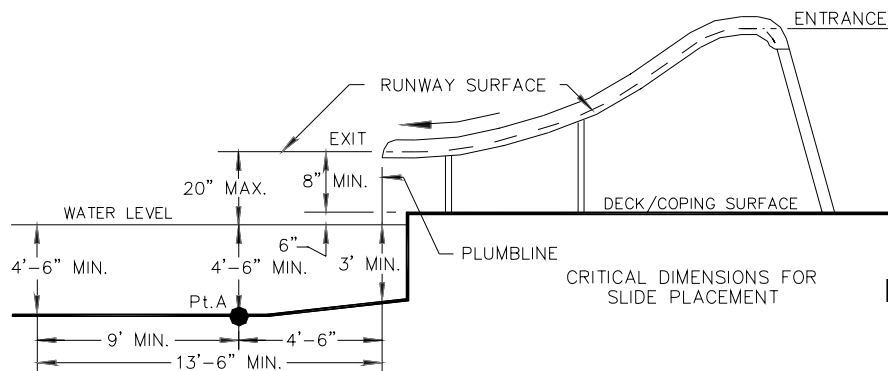

**Figure 25**
- 3) Using the four holes on each flange as a template (see Figure 25 below), drill four 5/16" holes per flange 1-7/8" deep. CAUTION: Do not drill holes larger than 5/16". Maintain drill hole straight and perpendicular for proper holding strength of anchor stud.
- 8) Drill a 1/4" diameter hole into the slide leg through the 3/8" diameter hole in the flange. Insert the (#30) 3/8" O.D. Aluminum Bushing into the hole in the deck flange and push in until it contacts the slide leg. Now insert the (#27) 1/4"-20UNC x 2-3/4" Hex Head Cap Screws and (#25) 1/4" x 5/8" Flat Washers through the bushing and in about a 1/2" into the hole in the slide leg. With the cap screw in position, drill a 1/4" hole into the slide leg through the 5/16" diameter hole in the opposite side of the deck flange. Take care not to run the drill bit into the 1/4" bolt. Push the cap screw completely through the slide leg. Install the (#25) 1/4" x 5/8" Flat Washers and (#26) 1/4"-20UNC Hex Lock Nuts (see Figure 25).